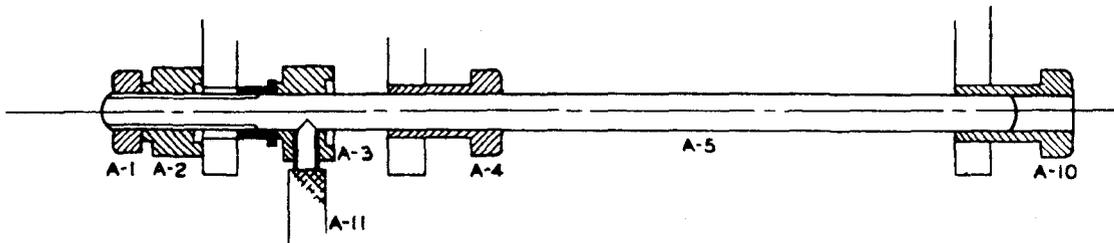
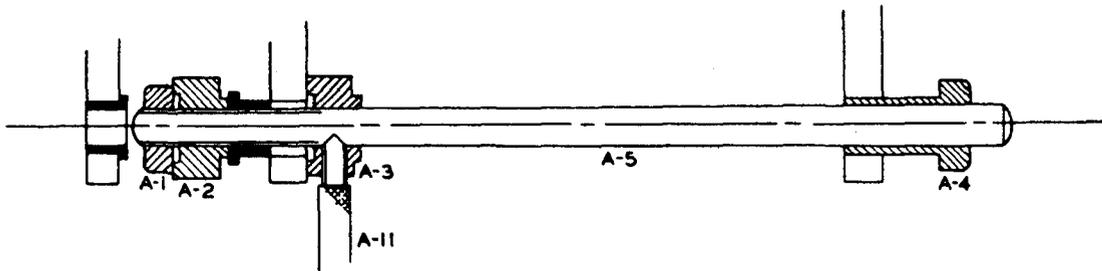
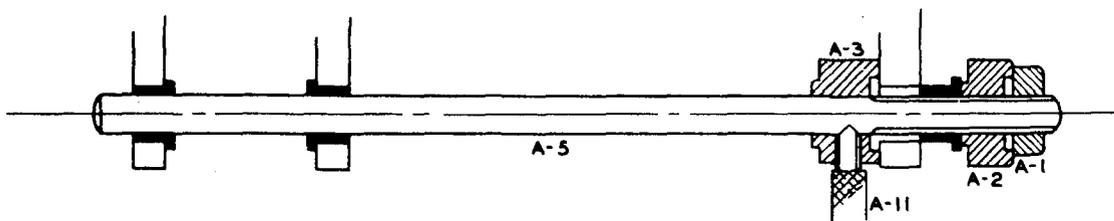

Fig. 25
Fig. 26
Fig. 27
(3) To insert new cam shaft bearings use the tool shown in Figs. 25, 26 and 27. Part A-11 is inserted into part A-3 and tightened so that its point goes into the conical spot in A-5. Install the left-hand bearing first, using the tool assembly shown in Fig. 25. Make certain that the oil hole and the set screw hole in the bearing are lined up for their corresponding holes in the casting so that when the bearing is finally in place the holes in the bearing will coincide with those in the casting. Draw the new bearing into place by tightening nut A-1. In the same manner install the middle bearing as shown in Fig. 26 using the tool assembled as shown in the figure. Install the right-hand bearing using the tool assembled as shown in Fig. 27. Insert the bearing holding screws. By
(21) To insert new bearings use the tool shown in Figs. 26 and 27. Make certain that the oil hole and the set screw hole in the bearing are lined up for their corresponding holes in the casting so that when the bearing is finally in place the holes in the bearing will coincide